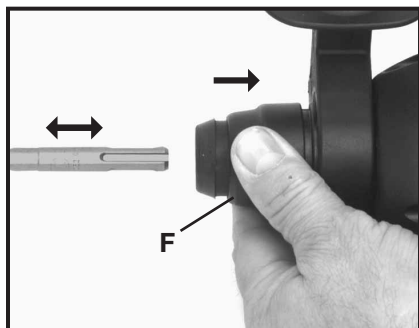

Fig. 7
3. Pull back on the collar (F) Fig. 7, and hold while performing step 4.
5. Release the collar (F) to lock tool in place.
6. To remove tool: pull back on the collar (F) Fig. 7, and pull tool out of the machine.